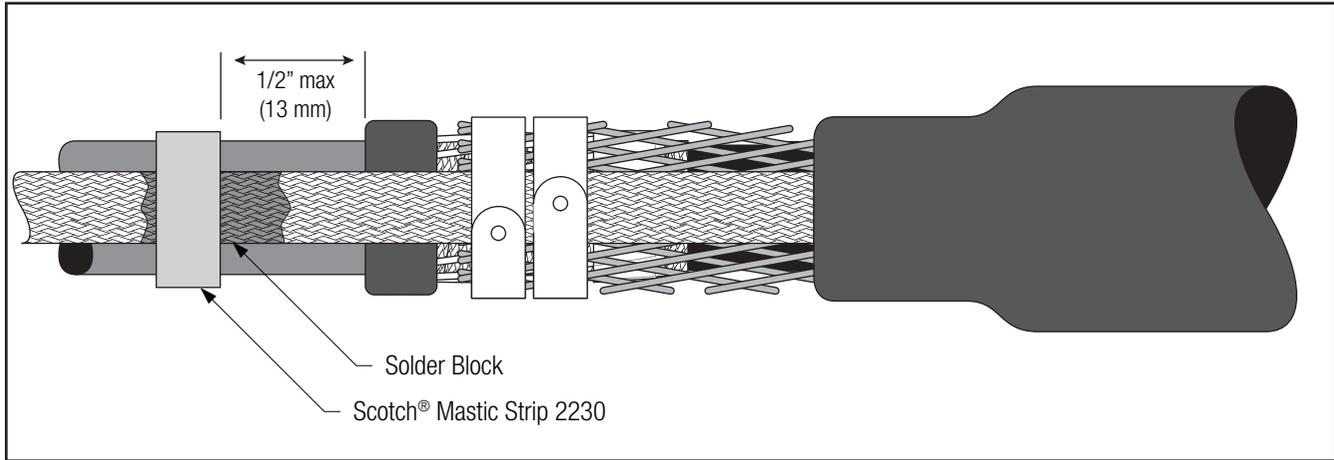

Figure 19
5.5 Place another mastic strip over the solder block. Press the mastic strips around the solder block and to the cable jacket (*Figure 19*).